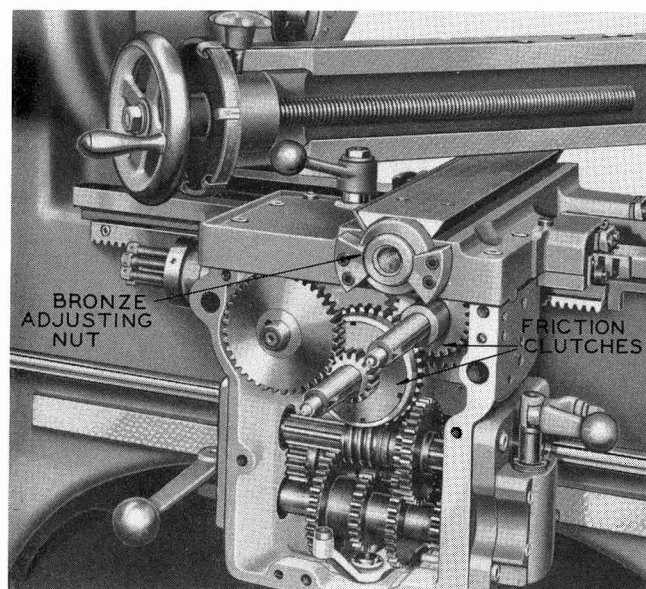

FIG. 10
2. To eliminate backlash between the cross slide screw and nut, loosen the locking screws holding the bronze adjustment nut. (Figure 10) Turn the adjustment nut until the backlash is eliminated, and then retighten the locking screws.